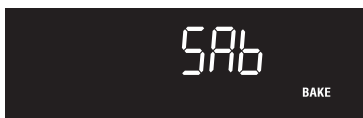

Figure 39: Oven showing Sabbath setting
6. Press and hold both **Cook Time** and **Delay Start** keys simultaneously for about 3 seconds to set the Sabbath feature. Once the feature is set, **SAb** (Figure 39) will appear in the display indicating the oven is properly set for the Sabbath feature.